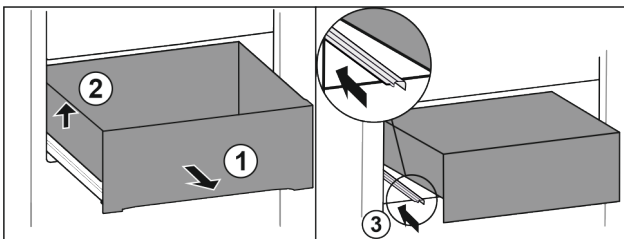

Fig. 23
- ▶ Pull out drawer as far as it will go. Fig. 23 (1)
- ▶ Lift drawer on the left. Fig. 23 (2)
- ▶ Insert left rail. Fig. 23 (3)